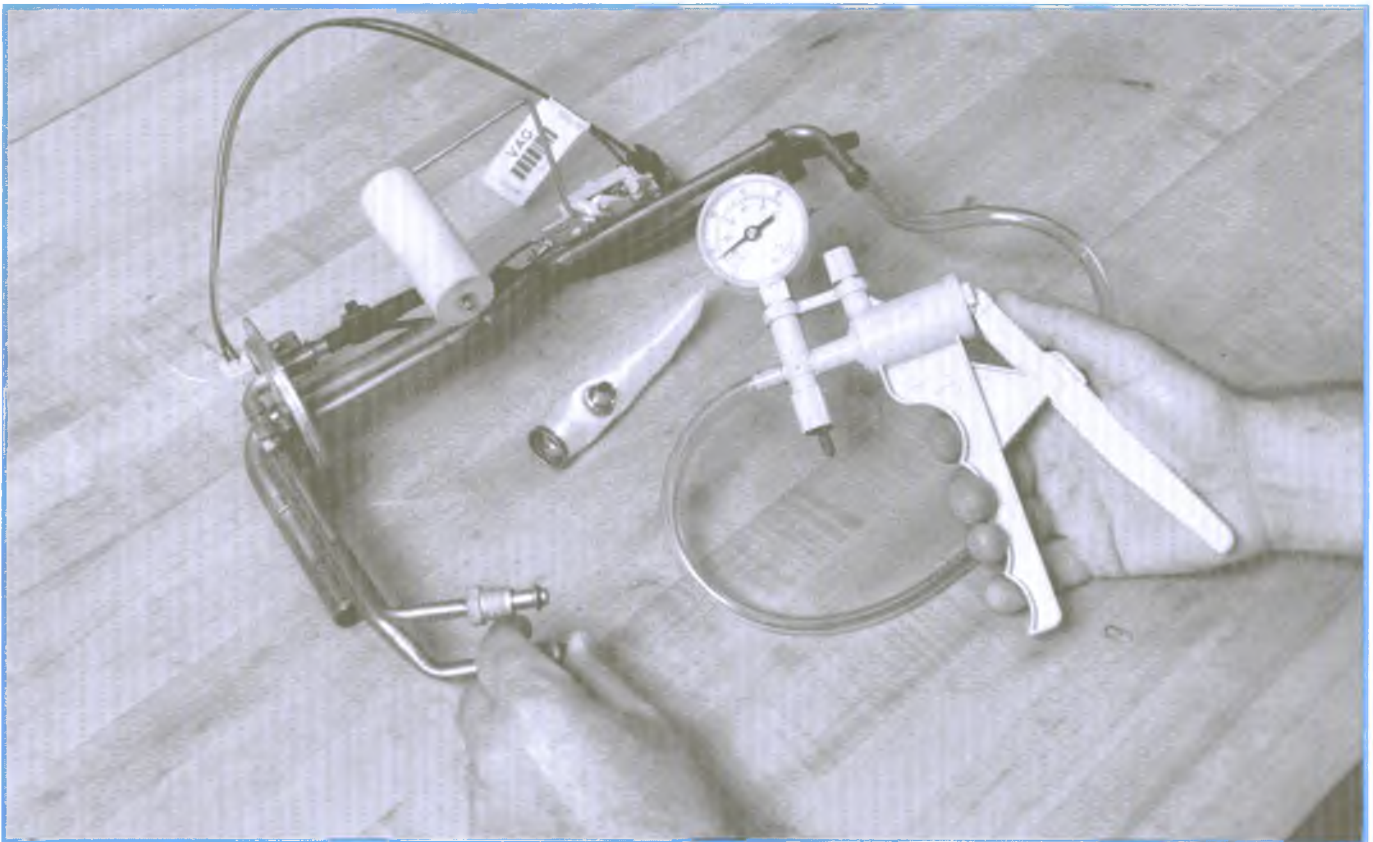

Figure 7-69, Fuel Pick-Up/Sending Unit Check
- Apply a vacuum to the upper end of the pick-up tube, and observe the gauge reading (see Figure 7-69):